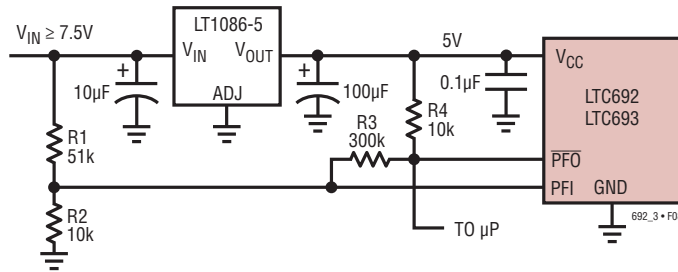

Figure 8. Monitoring *Unregulated* DC Supply with the LTC692/LTC693 Power-Fail Comparator
The LTC692/LTC693 generate a power failure output ( $\overline{\text{PFO}}$ ) for early warning of failure in the microprocessor's power supply. This is accomplished by comparing the power failure input (PFI) with an internal 1.3V reference.  $\overline{\text{PFO}}$  goes low when the voltage at the PFI pin is less than 1.3V. Typically PFI is driven by an external voltage divider (R1 and R2 in Figures 8 and 9) which senses either an unregulated DC input or a regulated 5V output. The voltage divider ratio can be chosen such that the voltage at the PFI pin falls below 1.3V, several milliseconds before the 5V supply falls below the maximum reset voltage threshold of 4.50V.  $\overline{\text{PFO}}$  is normally used to interrupt the microprocessor to execute shutdown procedure between  $\overline{\text{PFO}}$  and  $\overline{\text{RESET}}$  or RESET.
The power fail comparator, C3, does not have hysteresis. Hysteresis can be added however, by connecting a resistor between the  $\overline{\text{PFO}}$  output and the noninverting PFI input pin as shown in Figures 8 and 9. The upper and lower trip points in the comparator are established as follows:
**Example 1:** The circuit in Figure 8 demonstrates the use of the power-fail comparator to monitor the unregulated power supply input. Assuming the rate of decay of the supply input  $V_{IN}$  is 100mV/ms and the total time to execute a shutdown procedure is 8ms. Also, the noise of  $V_{IN}$  is 200mV. With these assumptions in mind, we can reasonably set  $V_L = 7.25V$  which is 1.25V greater than the sum of maximum reset voltage threshold and the dropout voltage of LT®1086-5 (4.5V + 1.5V) and  $V_{HYSTERESIS} = 850mV$ .